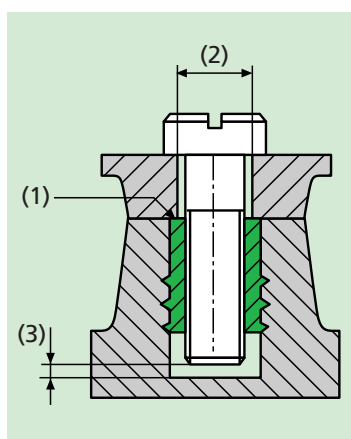

Fig. 18
The part requiring fastening should be flush with the threaded insert, see (1, fig. 18). For this reason, **the bore-hole (2) should be closely dimensioned and not countersunk.** The B-Lok® press in flush into the formed part (1).